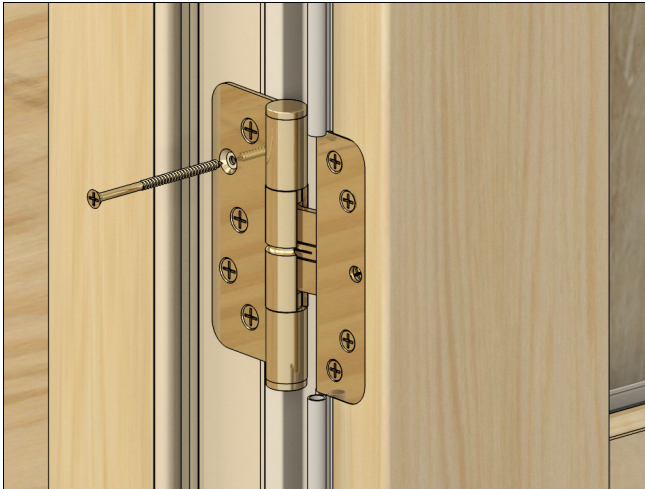

Figure 19
1. On all operating panels that hinge off of a jamb, install a provided #10 x 2-1/2" screw as shown in Figure 19. The 2-1/2" screw will always be put in the 2nd screw hole from the top. On IZ3 units, two #10 x 2-1/2" screws are needed in the center holes.